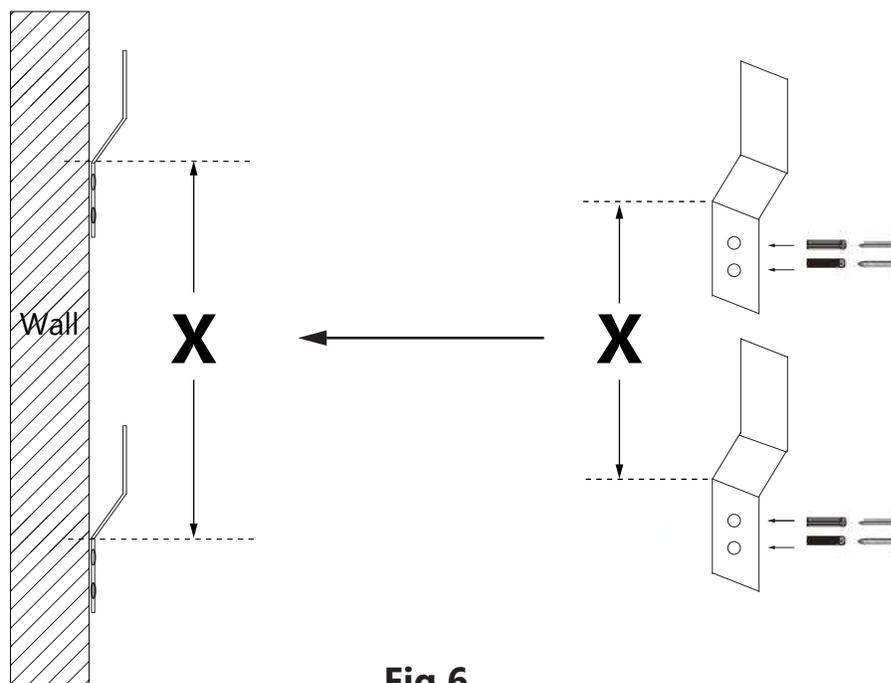

Fig 6
6. Place the **Support Brackets (#02)** just below the lines you just made on the wall, with the bend of the brackets lying on the marks. Mark your screw holes. Drill the holes using a $\varnothing 5/16''$ drill bit. Insert the wall anchors and use the included screws to attach the **Support Brackets (#02)** to the wall. (**Fig 6**)